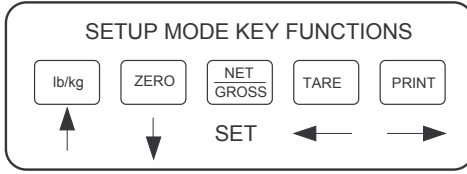

Figure 6-1: Setup Menu Key Assignments
6. Use the four directional keys (shown in Figure 6-1 below) to adjust the displayed value to the actual test weight value. Increase the flashing digit by pressing the lb/kg key. Decrease the flashing digit by pressing the ZERO key. Pressing the TARE key or the PRINT key will change the position of the flashing digit.
2. The display will momentarily show "**CAL 0**", followed by a flashing zero. Use the four directional keys (shown in Figure 6-1) to adjust the displayed value to the zero calibration value.
2. The display will momentarily show "**CAL 1**", followed by a flashing zero. Use the four directional keys (shown in Figure 6-1) to adjust the displayed value to the span calibration value.